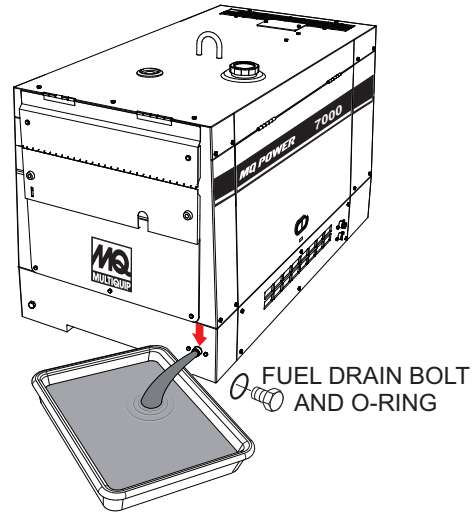

Figure 44. Draining Fuel Tank
2. If water contamination is present within the fuel tank, remove the fuel tank drain bolt and o-ring (Figure 44), then allow the fuel to drain into a suitable container.